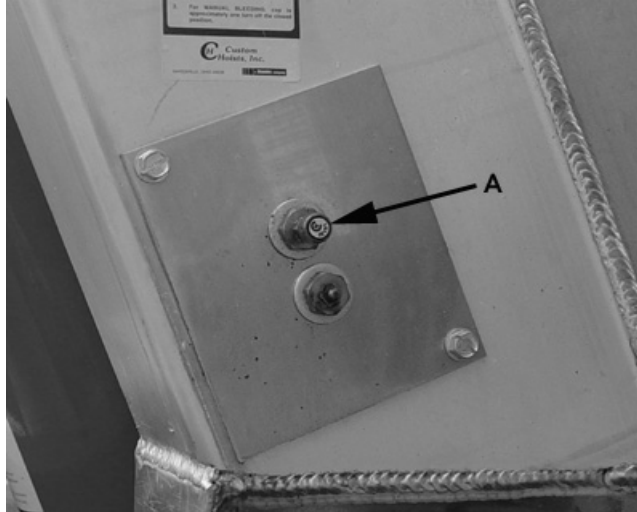

Figure 8-10 Hydraulic Cylinder Bleed Screw
For automatic bleeding, turn cap (A) counter-clockwise all the way out. This will bleed air from the hydraulic cylinder on each raise/lower cycle. See figure 8-10.
For manual bleeding, turn cap (A) approximately one turn off the closed position. Periodically turn the cap counter-clockwise to bleed air from the hydraulic cylinder. Return cap one turn off the closed position. See figure 8-10.